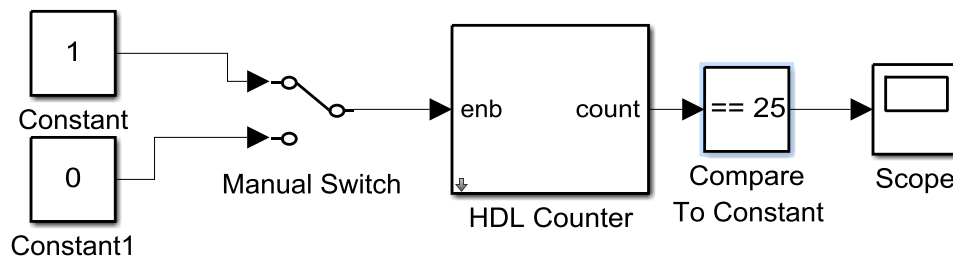

Figure 2 Simulink model to analyze counter with comparator
- 18) Simulate the design (shown in Figure 2) with the switch turned to the “1” position and describe your observations on the scope. What was created?